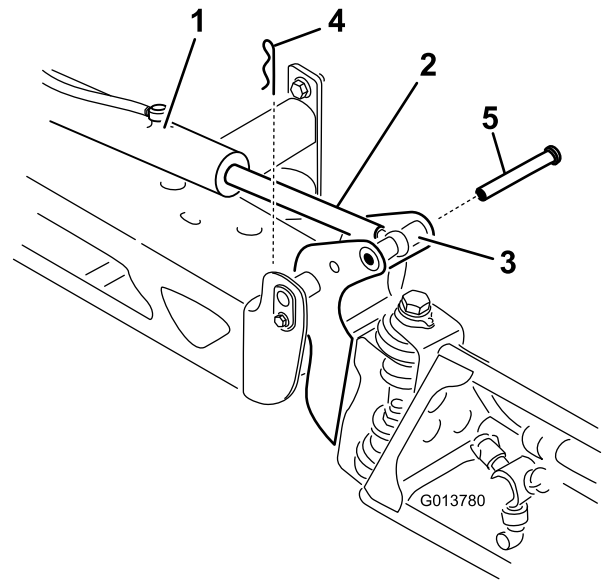

Figure 64
2. Remove the cotter pin from the pivot pin (Figure 64).
3. Lift up on the boom and remove the pin and slowly lower the boom to the ground (Figure 64).
7. While holding the boom, insert the pin through both boom pivot and actuator rod (Figure 64).